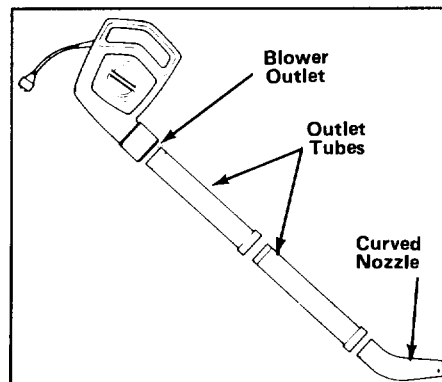

Figure 1
1. Thread outlet tubes together with a twisting motion (Fig. 1).
2. Thread assembled tubes into blower outlet (Fig. 1).